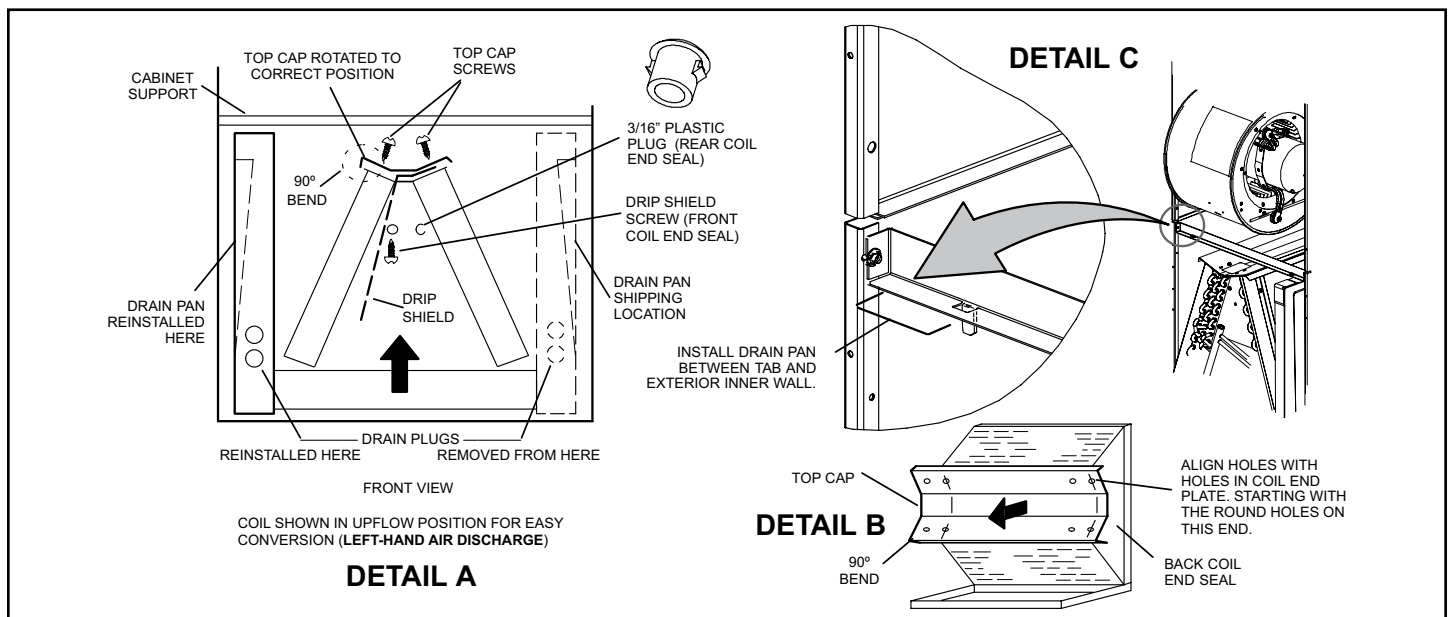

Figure 14. Field Modification for Left-Hand Discharge
5. Remove screws from top cap. Remove drip shield screw located in the center of the back coil end seal as illustrated in Detail A in Figure 14.
8. Rotate top cap 180° front-to-back and align with unused screw holes. Holes must align with front and back coil end plates (see Detail B in Figure 14). The top cap has a 45° bend on one side and a 90° bend on the other. **The 90° bend must be on the same side as the horizontal drain pan** as illustrated in Detail A in Figure 14.